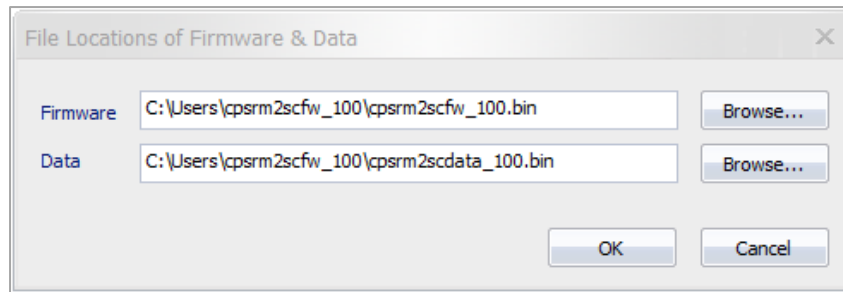

Figure 7. The File Locations of Firmware & Data window.
6. Select the Firmware and Data files and click “OK” to implement firmware upgrade, as shown in Figure 7.